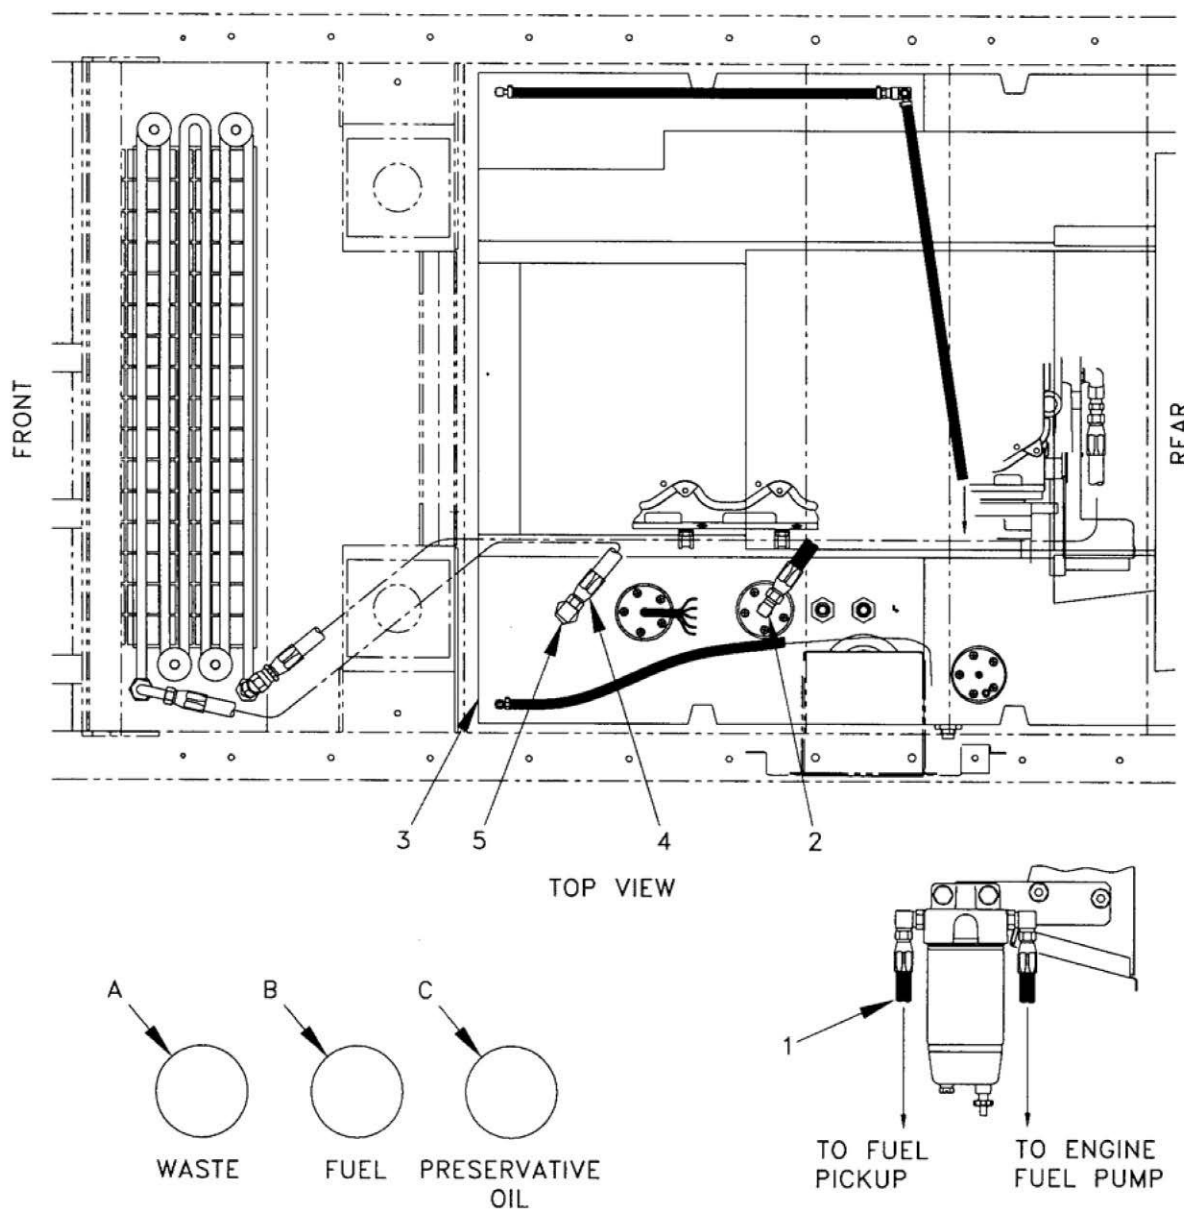

Figure 1. Preparation for Storage or Shipment.
6. Disconnect fuel pickup hose (Figure 1, Item 1), from elbow (Figure 1, Item 2) on fuel tank (Figure 1, Item 3). Disconnect fuel return hose (Figure 1, Item 4) from elbow (Figure 1, Item 5) on fuel tank (Figure 1, Item 3).
8. Place end of fuel return hose (Figure 1, Item 4) into container A (waste container).
10. Place end of fuel pickup hose (Figure 1, Item 1) into container B (fuel).
11. Start engine and run for two minutes using the fuel in container B. After two minutes, place end of fuel pickup hose (Figure 1, Item 1) into container C (oil). Operate until oil from container C comes out of fuel return line into container A (waste container). Shut down engine and allow to cool at least 10 minutes.
12. Reconnect fuel pickup hose (Figure 1, Item 1) to elbow (Figure 1, Item 2) on fuel tank (Figure 1, Item 3). Connect fuel return hose (Figure 1, Item 4) to elbow (Figure 1, Item 5) on fuel tank (Figure 1, Item 3).